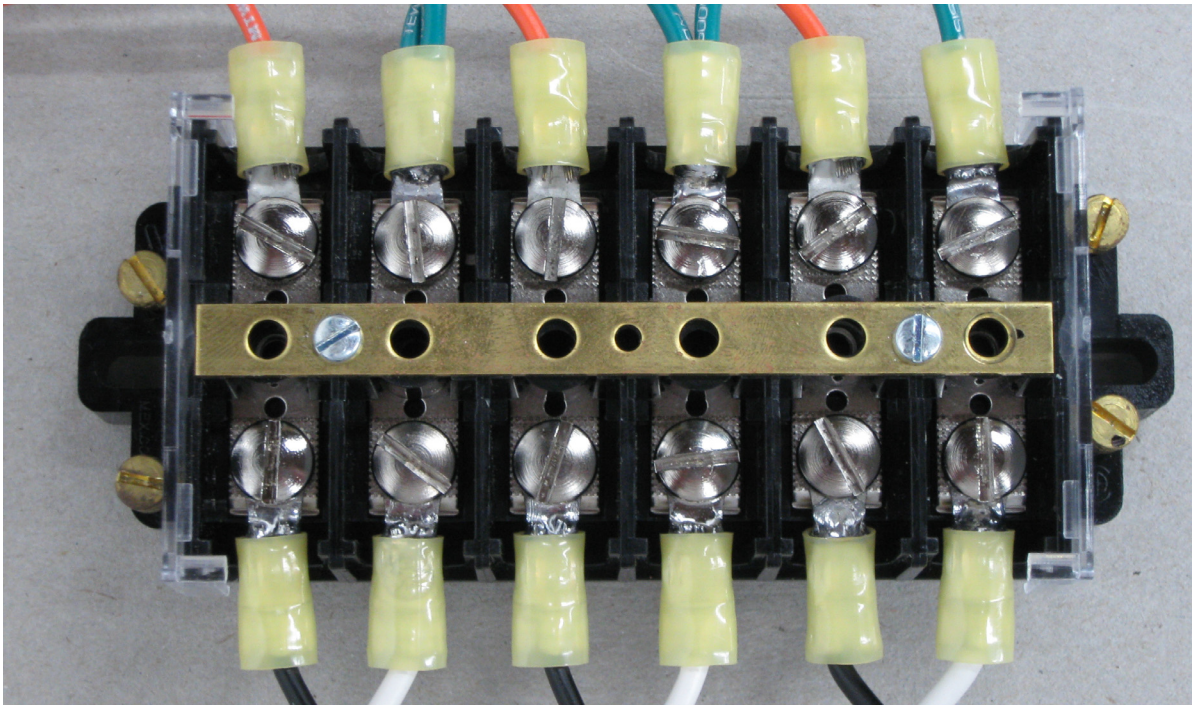

Figure 4.5: EI SB-6TC Shorting Block with Wiring Installed
3. All shorting blocks are equipped with 4 brass shorting screws stored in the four corners of the base. Refer to Figure 4.5.